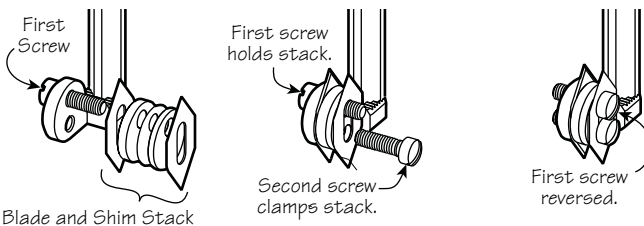

Figure 2: Assembling the cutter stack.
2. Insert one of the screws into the **carrier side**, as shown at left in **Figure 2**. The screw will support the blades and shims as they are stacked together.
4. Insert the second screw into the **blade side** (as shown in the center of **Figure 2**) to fasten the stack to the carrier.